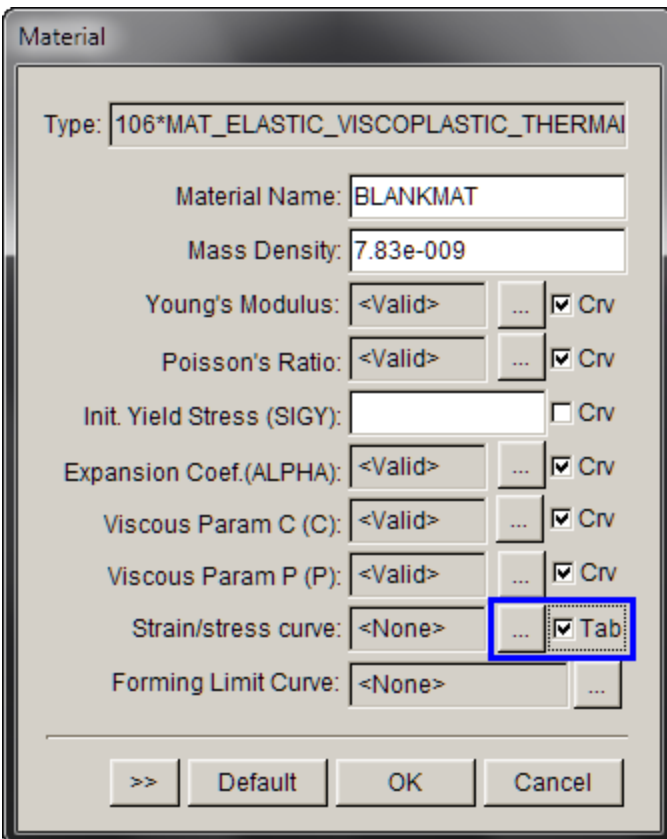

Figure 19
1. Click the button left to **Tab** illustrated in Figure 19.